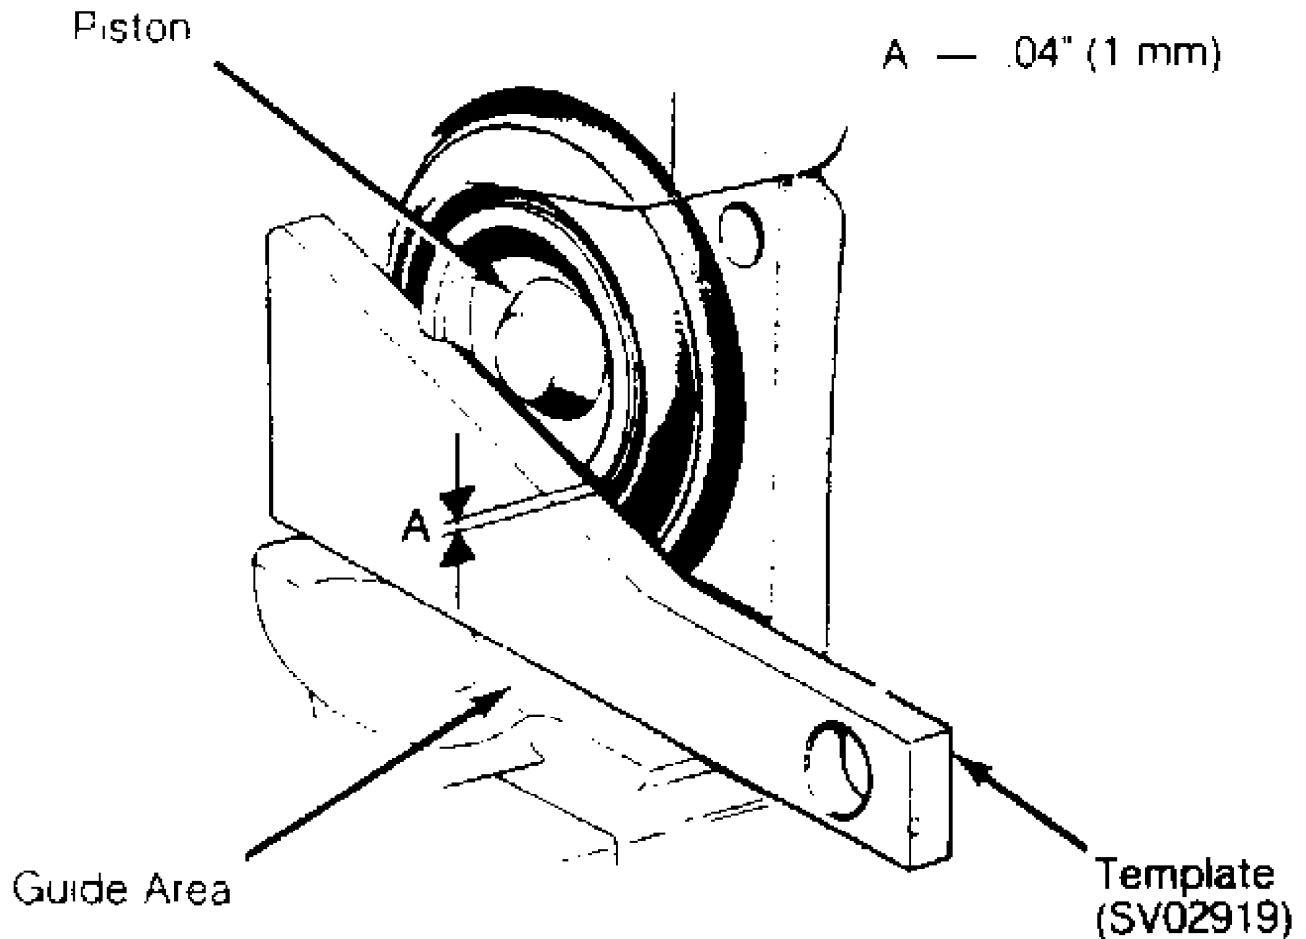

Fig. 1: Checking ATE Rear Caliper Piston Angle To Avoid Brake Squeal
2) Seat pistons in caliper bore with Piston Tool (2809). To avoid brake squealing, check piston position by installing Template (2919). Piston recess should incline 20 degrees in relation to lower guide area on caliper. See Fig. 1.
3) If distance from one piston recess to the other recess at measurement "A" exceeds .04" (1 mm), adjust piston position using Adjuster (2918) to rotate piston. See Fig. 1.
seals in cylinder bores. Carefully install pistons into cylinder bores. On ATE rear brake calipers, check piston position. Refer to DISC PADS under REMOVAL & INSTALLATION in this article. Refer to Fig. 1. Install dust boots and retaining clips. Install bleeder screw and disc pads.